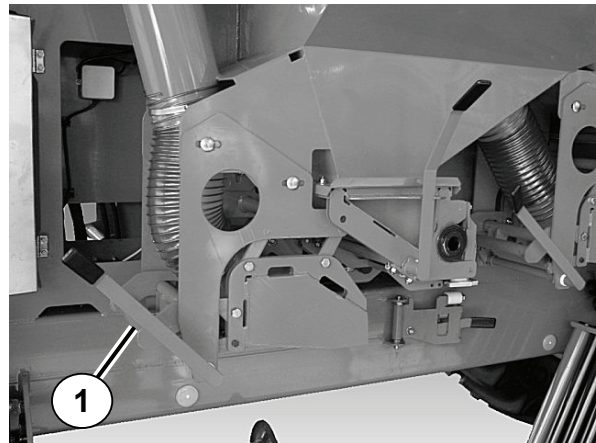

Fig. 29: Pressure chamber securing device
2. The pressure chamber securing device (Fig. 29: Pos. 1) drops down and engages.